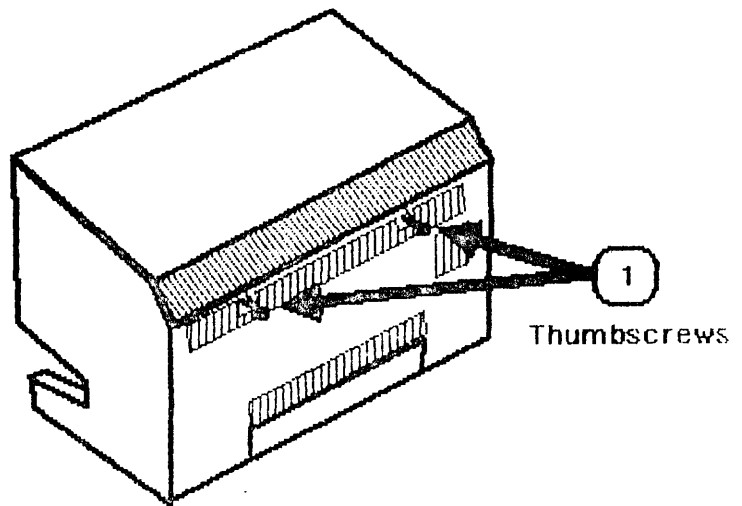

FIGURE 3
2. Turn the two thumbscrews (see Figure 3, #1) along the upper edge of the rear panel counterclockwise until they won't turn any further.